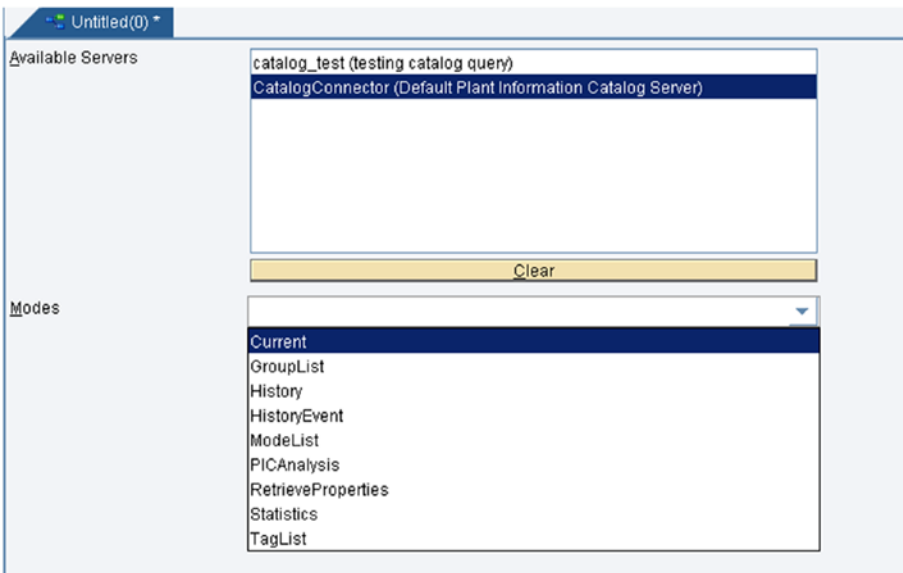

Figure 7-129. Available modes in the Catalog query
4. From the Data Source screen, select the source data server and mode of the query (see Figure 7-129). Available modes are: